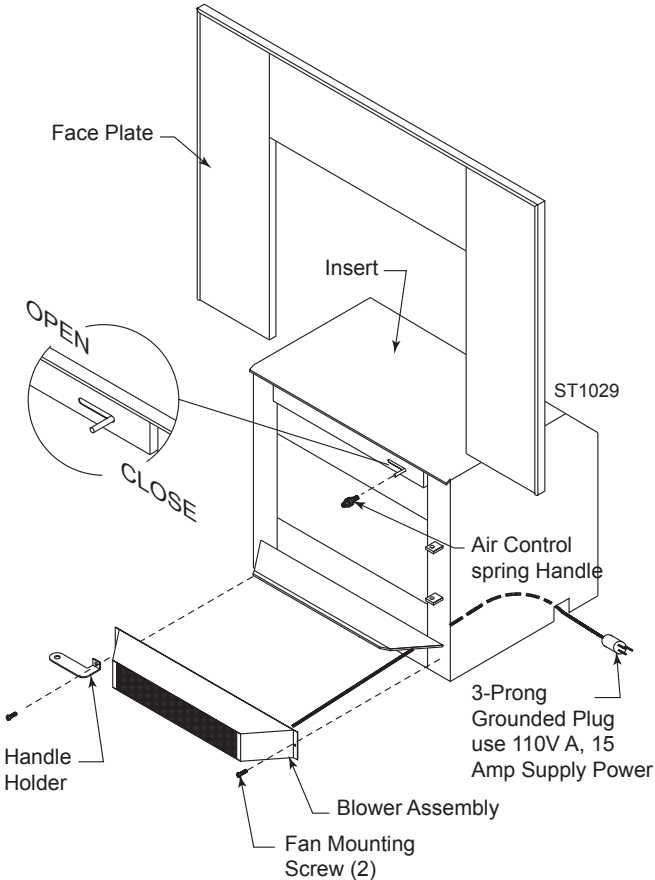

Figure 10
1. Remove screws from insert body, route cord under body and through the cut out. Attach the blower with the screws previously removed. (Fig. 10) Blower unit should be removed occasionally, inspected and cleaned.